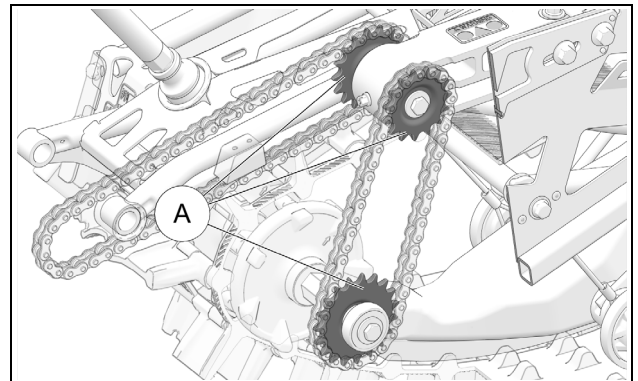

Figure 36
Inspect the chain drive sprockets (A) for wear. If the chain is set to the required tension (3-6 mm [1/8-1/4 in.] deflection) and the chain misses or skips over some of the driving teeth, the sprockets must be replaced. Figure 36.